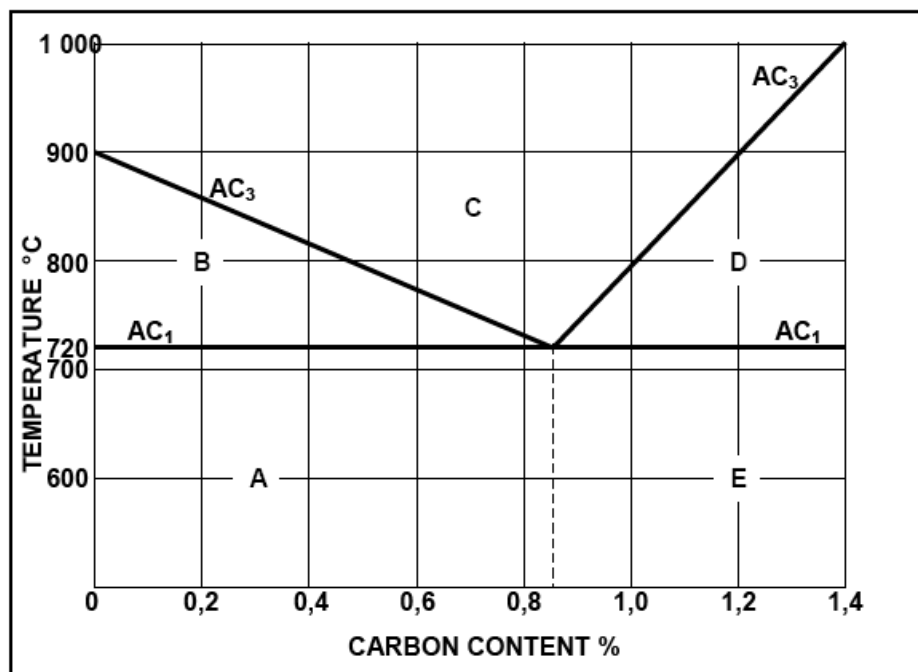

FIGURE 17.1
- 17.1 FIGURE 17.1 shows the iron-carbon equilibrium diagram used for carbon steels. Answer the questions that follow.